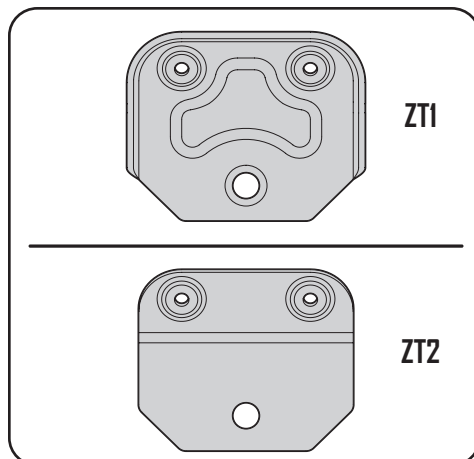

Figure 4-2
**Note:** The Triple Bagger 19A70056100 may only be attached to Ultima ZT2 series RZT's. Use Figure 4-2 to determine model by type of hitch bracket. Please contact customer service if you have any discrepancies.